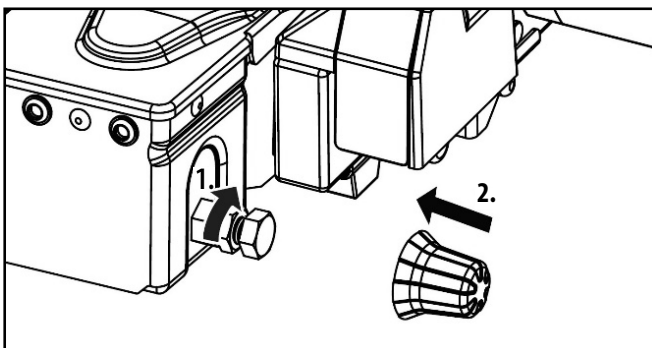

Figure 16: Adjusting the quick-release fastener
- Tighten the lock nut (Fig. 16).